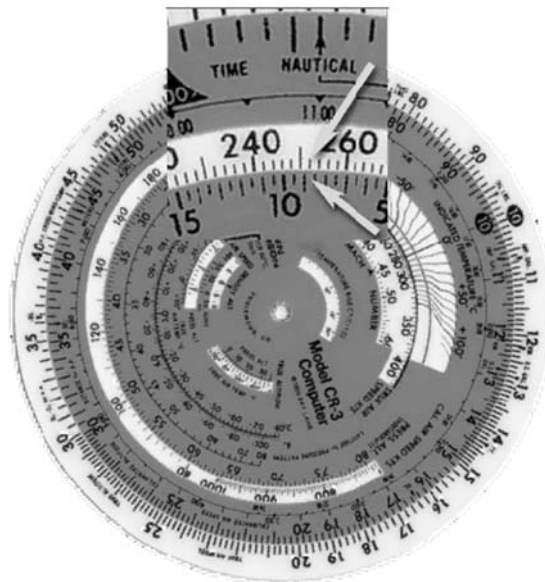

Figure 4.4-6 TAS 1 (CAS/PA)
1. Set the CAS from the problem (convert IAS to CAS) over the PA (which was calculated in the previous problem). Be careful, the scales increase in opposite directions! (i.e. 10000 is RIGHT of 15000) (Figure 4.4-6)